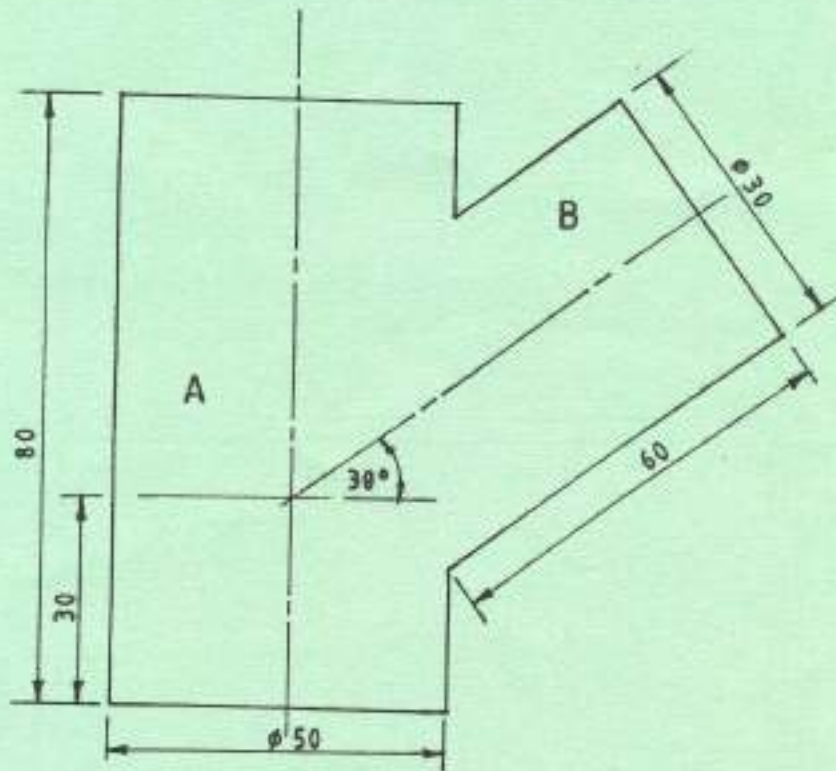

Fig. 6
7. Figure 6 shows an incomplete front elevation of two pipes of unequal diameters intersecting at 30° . Complete the front elevation by including the line of intersection and draw the following: